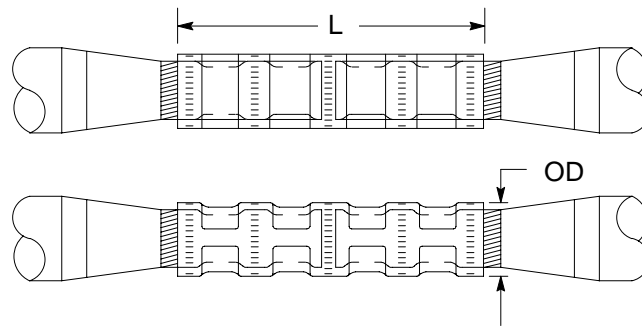

Figure 7
Table 11 Straight Connectors – Compression-Type – Copper-to-Copper (Figure 7)
1. Connectors shown in Figure 7 on Page 15 are to be used to connect cables of up to 35 kV rating or lower, and can be used on bare cables where such cables will not be subjected to tension.
3. Smaller connectors appear as in Figure 7 on Page 15, except only one indent is required for each cable socket.